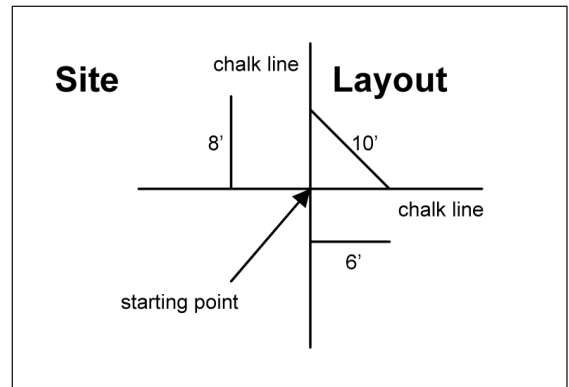

Figure 2: Modular Tile Installation Setup
- A second chalk line must be snapped from the starting point at 90° to the first line. This can be accomplished using a 3-4-5, 6-8-10, or larger triangle, depending on the room size. Meters or feet may be used to lay out the triangle in these proportions. (See Figure 2)